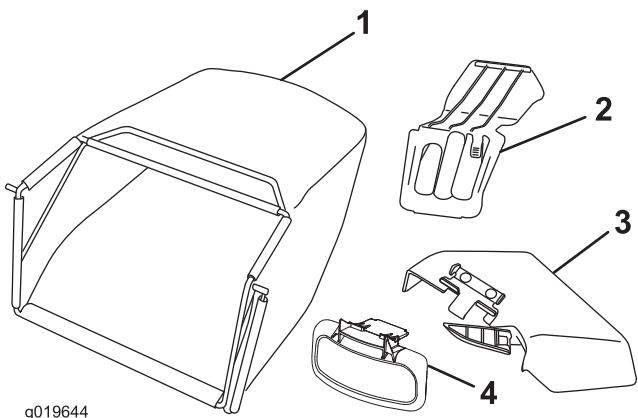

Figure 10
5. Move the throttle control lever to the **Fast** position when the engine starts (Figure 10).